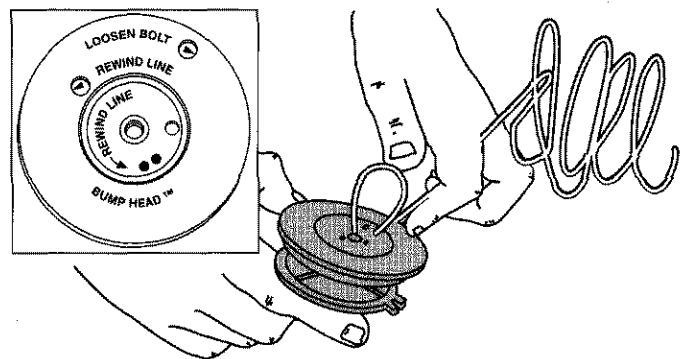

Fig. 18
6. Take approximately 25 feet (7.6 m) of new 0.095 inch diameter trimming line, loop it into two equal lengths. Insert each end of the line through one of the two holes in the inner reel (Fig. 18). Pull the line through the inner reel so that the loop is as small as possible.